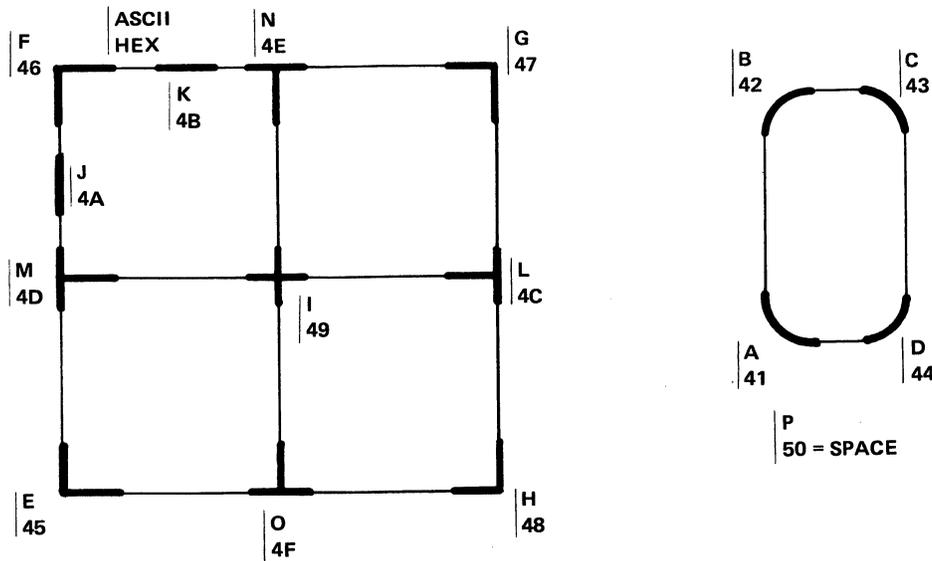

Figure 3-3. Characters for Selecting Graphics Elements
3.4.4 Graphics. The terminal has fifteen line drawing graphics characters as shown in figure 3-3. Unlike the normal characters, which always have at least one dot clear on all sides, the graphics extend to the edge of the character window so
continuous lines can be formed. The "graphics On" command causes all subsequent characters to be converted to graphics. Figure 3-3 shows a selector character for each graphic element; F will